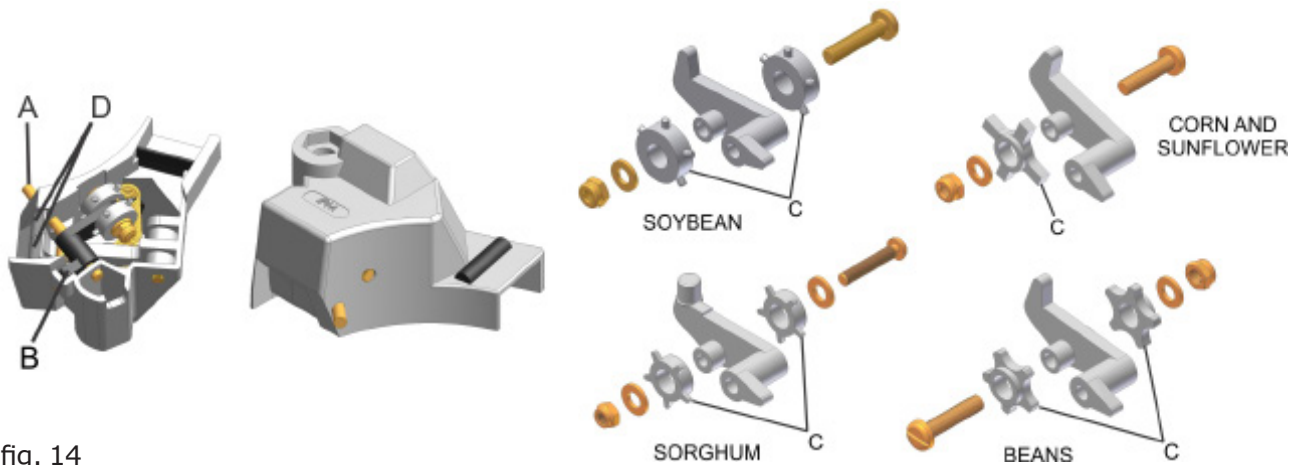

fig. 14
- 2- Remove the fastening pin of the roller articulator (A) (fig. 14);
- 3- Remove the articulator, and change the roller model if necessary (B);
- 4- Note the roller model (C) to be used. It shall be compatible with the piercing of the disk to be used, with single or double row.
Note after the assembly of the seed box, if the scraping triggers (D) (fig. 14) are free.